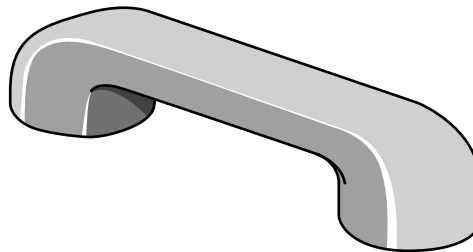

Fig. 4
- 8 Fig. 4 shows a handle made from aluminium alloy.